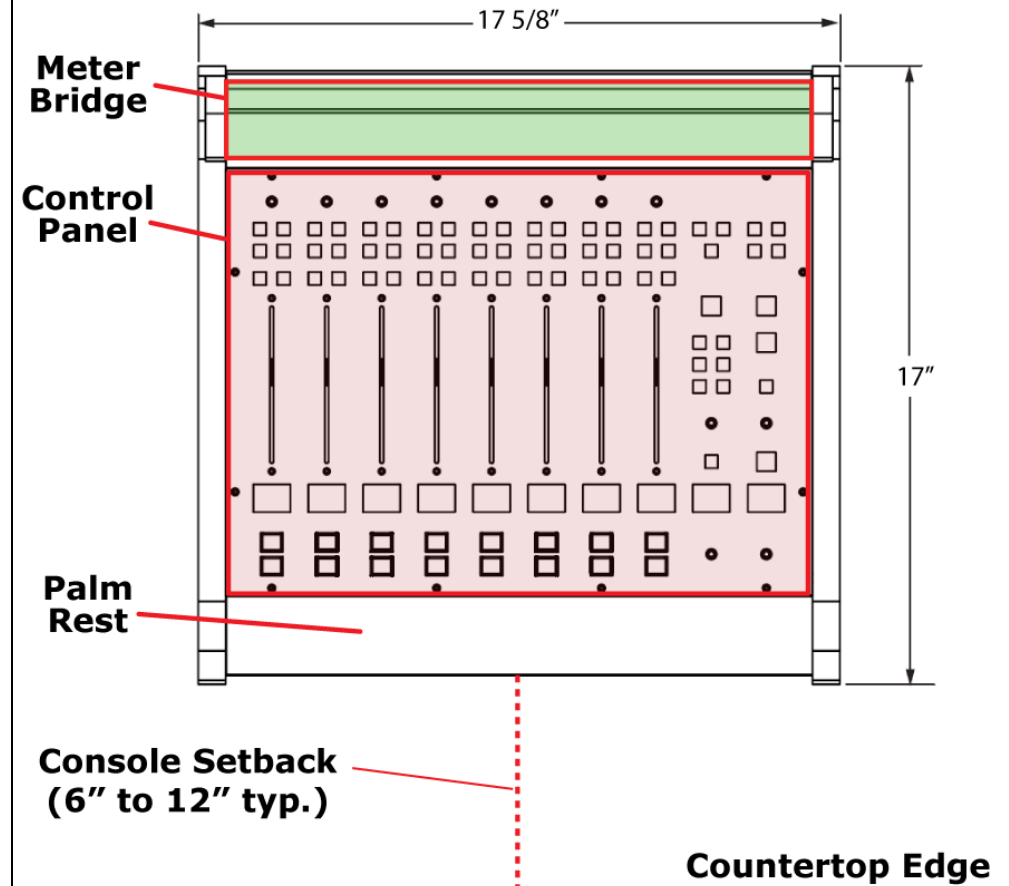

Figure 2-1 DMX-8 Surface, Countertop Positioning
The DMX Surface is intended to set on top of the studio furniture countertop with its palm rest between six and twelve inches (15 to 30 cm) from the edge of the countertop (Figure 2-1). This "setback space" allows keyboards and mice, a VoxPro controller, copy, log sheets, etc. to be set in front of the console.
2. Use a pencil to mark the countertop at the center of the front edge of the palm rest (for the DMX-8, this is the center line between fader channels 5 and 6, as shown in Figure 2-1).
When the DMX Surface needs to be fastened to the countertop for security, the screws fastening the two front feet must be removed. The Surface's control panel (see Figure 2-1 on the previous page) must also be removed. Two #6 screws with oversize washers and lock washers, are required. They must go thru the countertop from below and go through the two front feet to screw into the chassis. When tightened, the two screws must not extend over 1/4" into the chassis to avoid contacting the control panel circuit board or internal cabling.